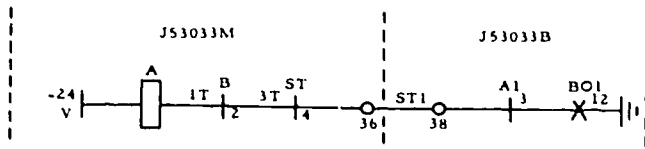

Figure 4-5. Sample line and contact drawing for a key system circuit.
and symbols. Line and contact diagrams usually contain only one simple circuit, which starts at the power source and terminates at a ground, or vice versa. Figure 4-5 is such a circuit. In it you can see that the power source is represented with a negative 24 volts and a ground symbol. You should remember from your resident training that the X in the line drawing indicates that the device which it represents is operated. For example, the B-1 above the X in the line drawing of figure 4-5 identifies an operated relay in the J53033B equipment. Since this relay has operated, contact 12 is operated. As a result, relay A in the J53033M equipment operates. The operating circuit for relay A also includes nonoperated contacts 3 (relay A1), 3T-4 (relay ST) and IT-2 (relay B). In addition, two terminals (36 and 38) and the ST1 lead are in the circuit.
6. Use figure 4-5 to identify the conductor that connects the J53033M and J53033B equipment together.